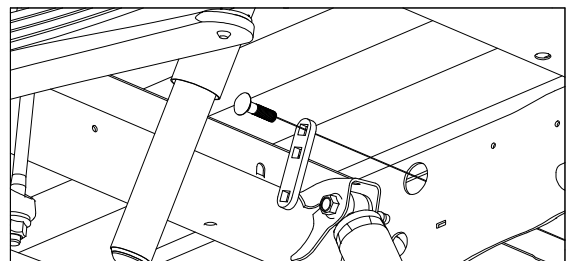
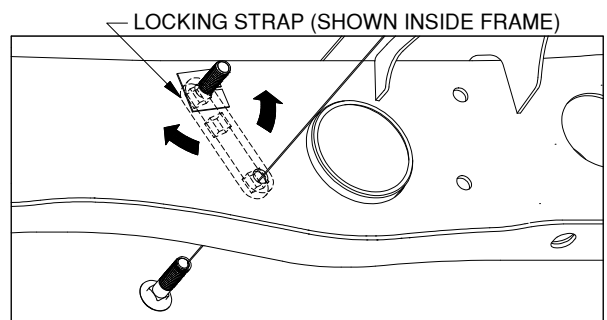
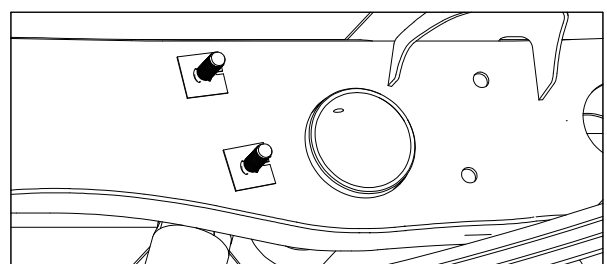

Figure B4: View looking under bed looking up at driver side of frame.
Figure B5: View looking into driver side wheel well.
Figure B6: View looking into driver side wheel well.
5. **Install mounting hardware.** Attach a 1/2" x 2" carriage bolt to the end of one of the fish wires. Next, pass the fish wire onto one of the holes on either end of the locking strap. Insert the straight end of the fish wire into the large clearance hole in the inside of the frame nearest to the bed (top hole), see Figure B4. Pass fish wire through the frame and out the smaller hole on the outside of the frame where the carriage bolt will install. Push the locking strap into the frame. Pull the fish wire until the threads of the carriage bolt are through the hole. Maneuver the bolt until the square shank of the bolt is inside the square hole in the locking strap inside the frame. Carefully remove the fish wire while holding onto the bolt so that it does not fall back into the inside of the frame. Install a bolt retainer onto the carriage bolt and tighten until the retainer is snug against the frame. Attach another carriage bolt onto a fish wire. Twist the top carriage bolt to turn the locking strap so that the bottom hole of the strap is in line with the lower hole in the frame. Pass the straight end of the fish wire through the lower clearance hole on the inside of the frame and guide the end through the locking strap hole and lower hole in the frame, see Figure B5. Pull the fish wire until the carriage bolt has passed out of the frame. Remove the fish wire and attach a bolt retainer so it is snug against the frame, see Figure B6. Repeat this step on the other side of the truck.